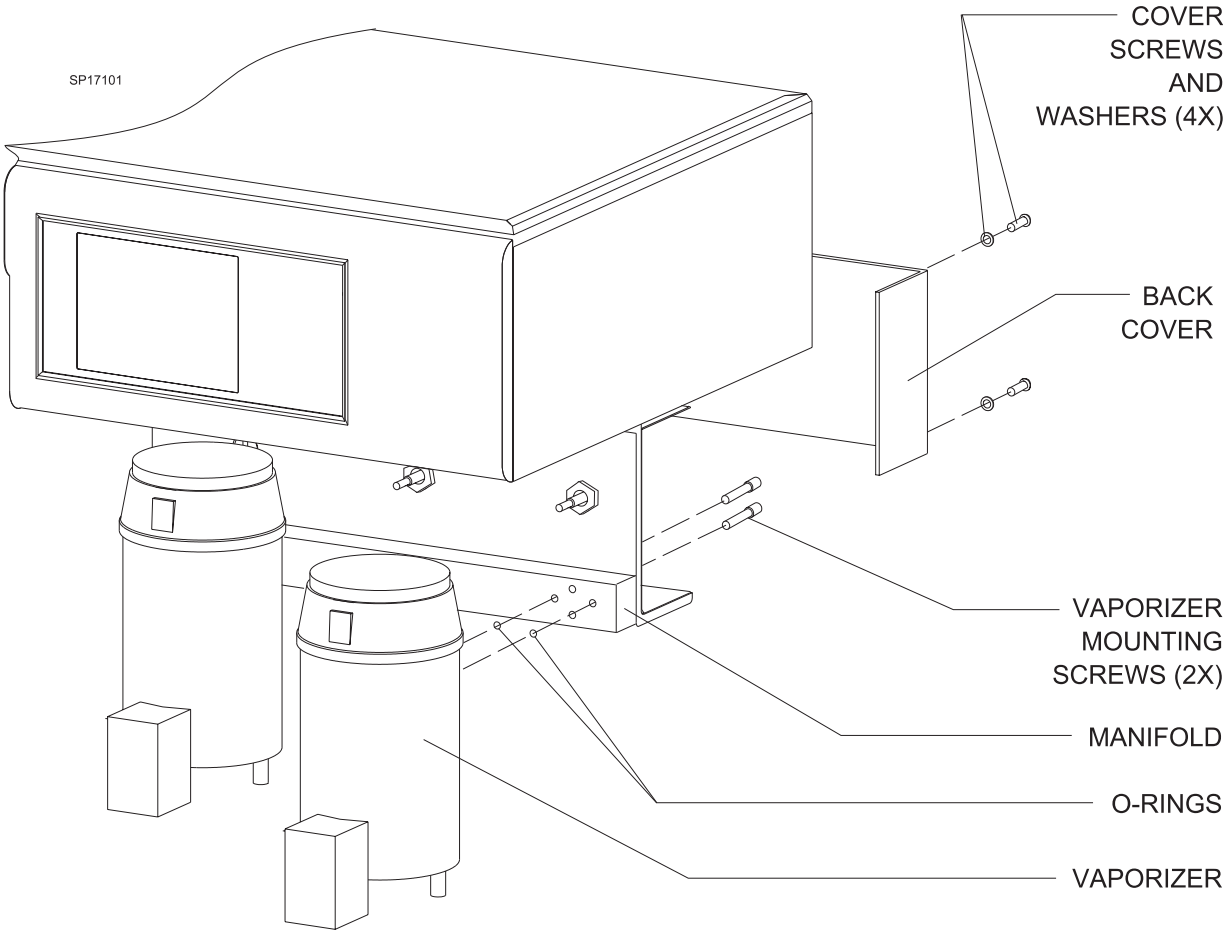

Figure 1: VAPORIZER REMOVAL
NOTE: Each vaporizer is held to the machine by two 3 mm socket head screws. these screws are located at the back of the vaporizer manifold, and are accessible by removing the cover from the interlock mechanism as shown in Figure 1.
3. Remove the back cover from the vaporizer interlock mechanism. See Figure 1.